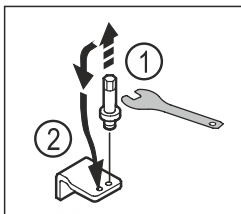

Fig. 22
- ▶ Unscrew the bolt of the lower swap bearing block with an Allen key AF5. Fig. 22 (1)
- ▶ Insert the bolt on the opposite side. Fig. 22 (2)